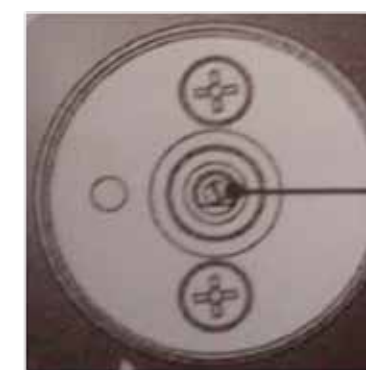

Figure 2
- Insert a small screwdriver into the shaft of the gas valve and adjust the internal screw until the correct low flame is obtained; see figure 2